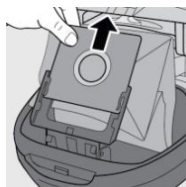

Figure 19
3. Pull the plastic base of the dust bag to remove it from the holder (Figure 19).